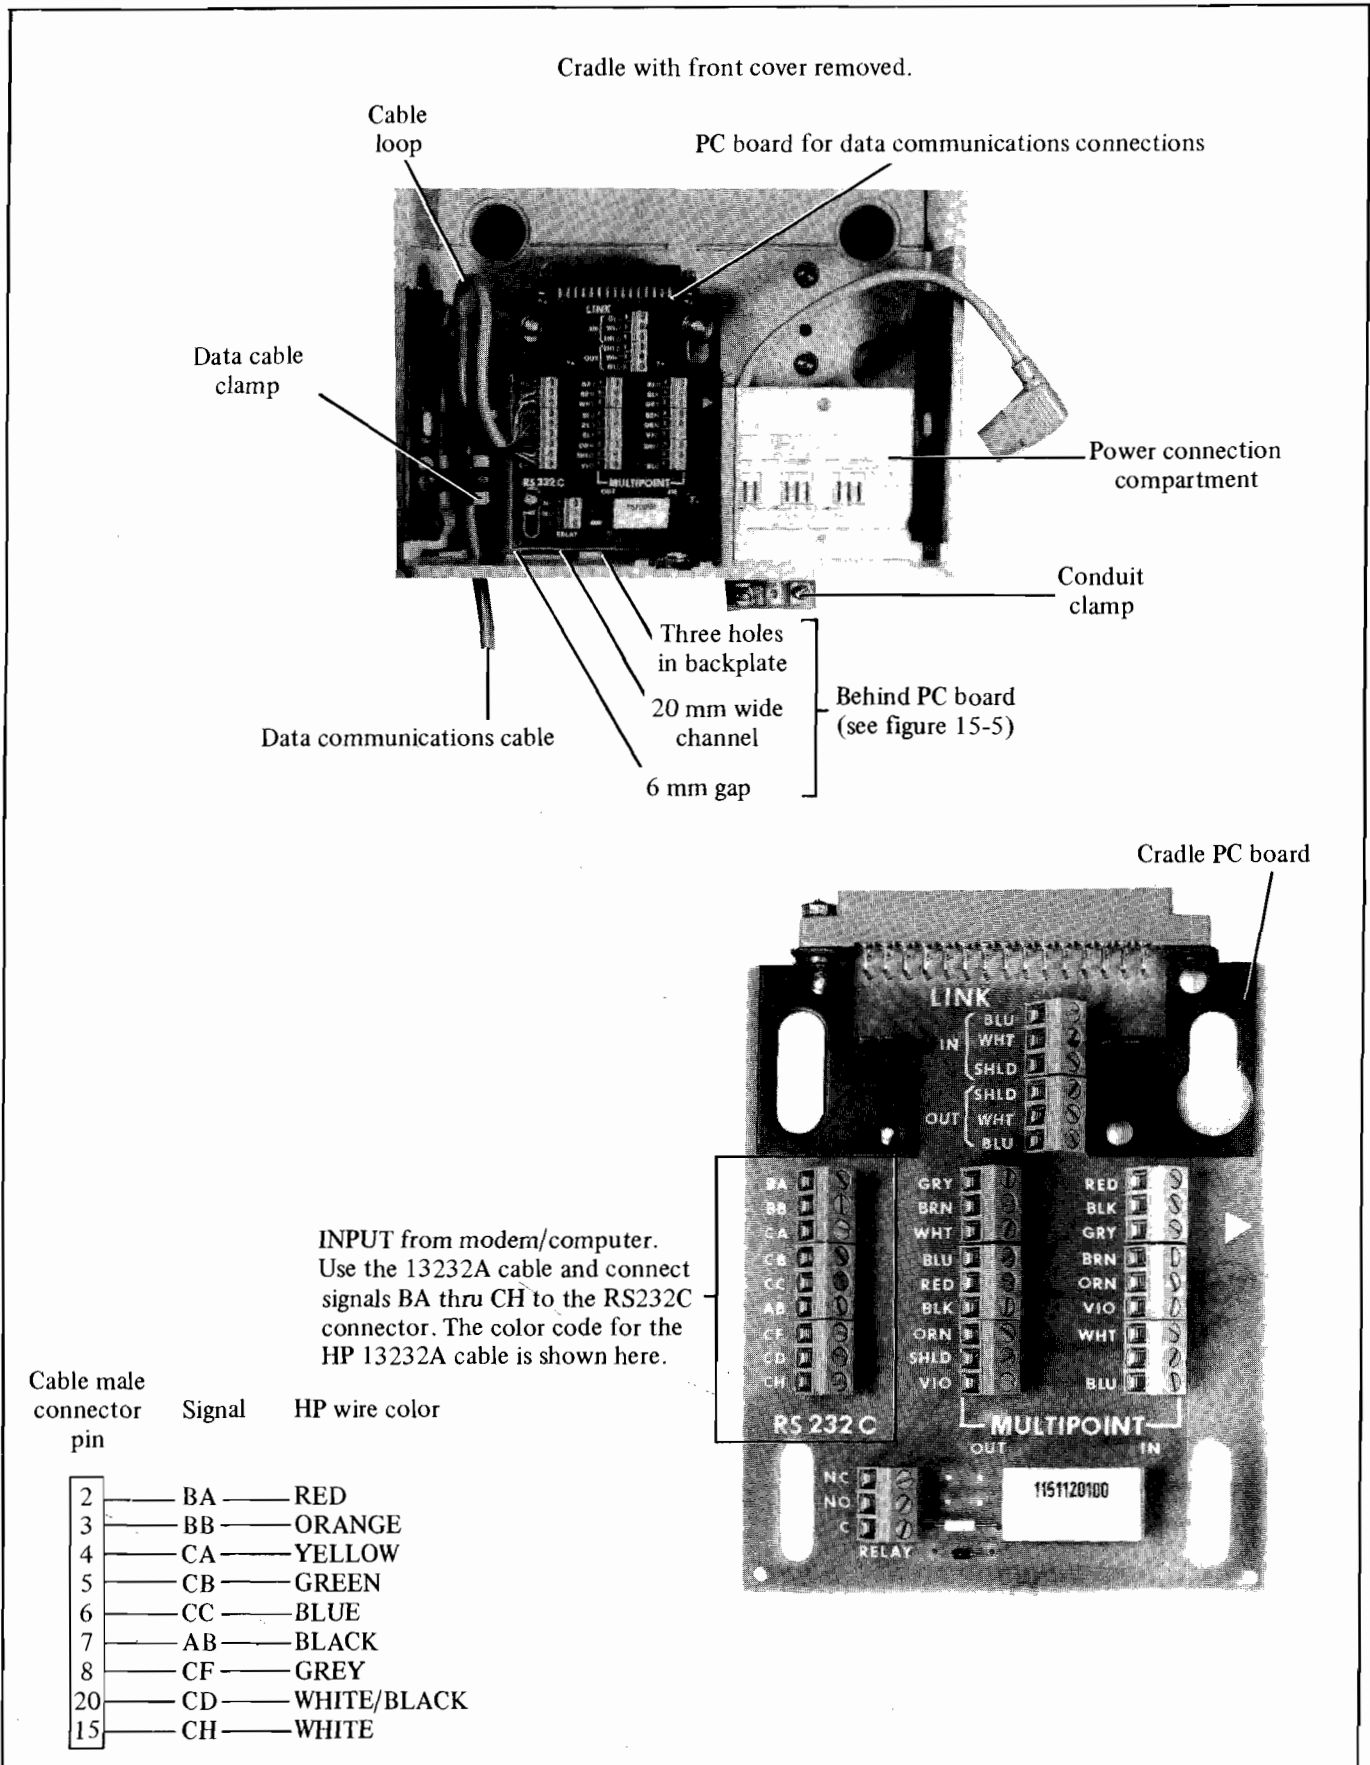

Figure 15-22 Point-To-Point Cradle Connection
- 4) Within the base, slacken the data cables clamp (see figure 15-22).
- 7) Connect the cable wires to the relevant contacts of the RS232C screw connector, see figure 15-22.
- 8) Ensure that the point-to-point cable has a loop (see figure 15-22). This is necessary because when the terminal is installed in the cradle the printed circuit board must be moved upwards to mate with the terminal 30-pin connector.
- 3) The cable should be routed to the data cable clamp via the 20 mm (0.79 ins.) wide channel at the base of the cradle and through the 6 mm (0.24 ins.) wide gap at the left-hand side of the channel. See Figure 15-22.